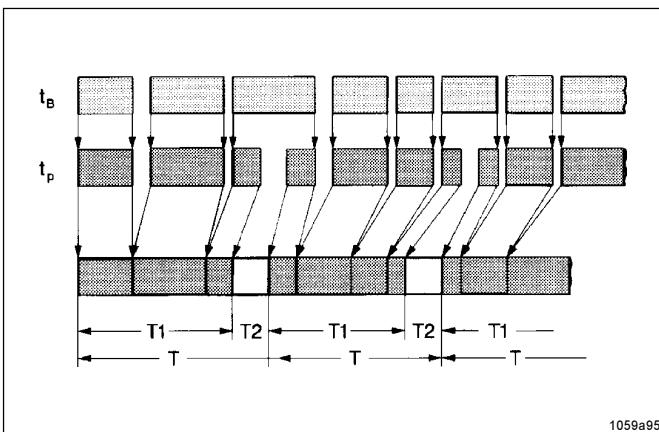
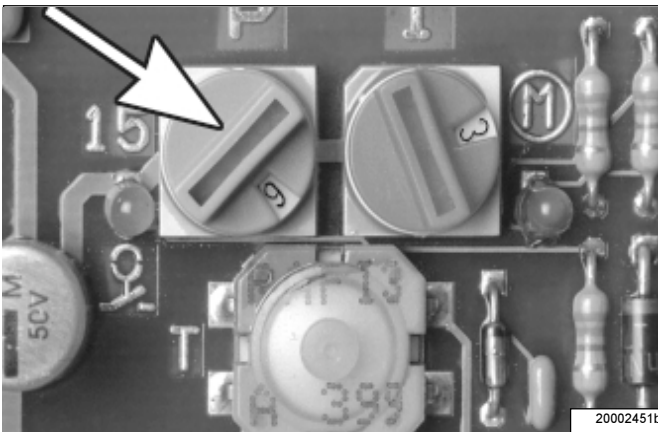

Fig. 6 - Time sequence diagram
Fig. 8 - Rotary switch - Pause time
- When the machine contact or the driving switch is switched off, the pause times which have already elapsed are stored and added up (refer to T1, Fig. 6) until the time which has been set on the blue rotary switch (Fig.8) is reached.